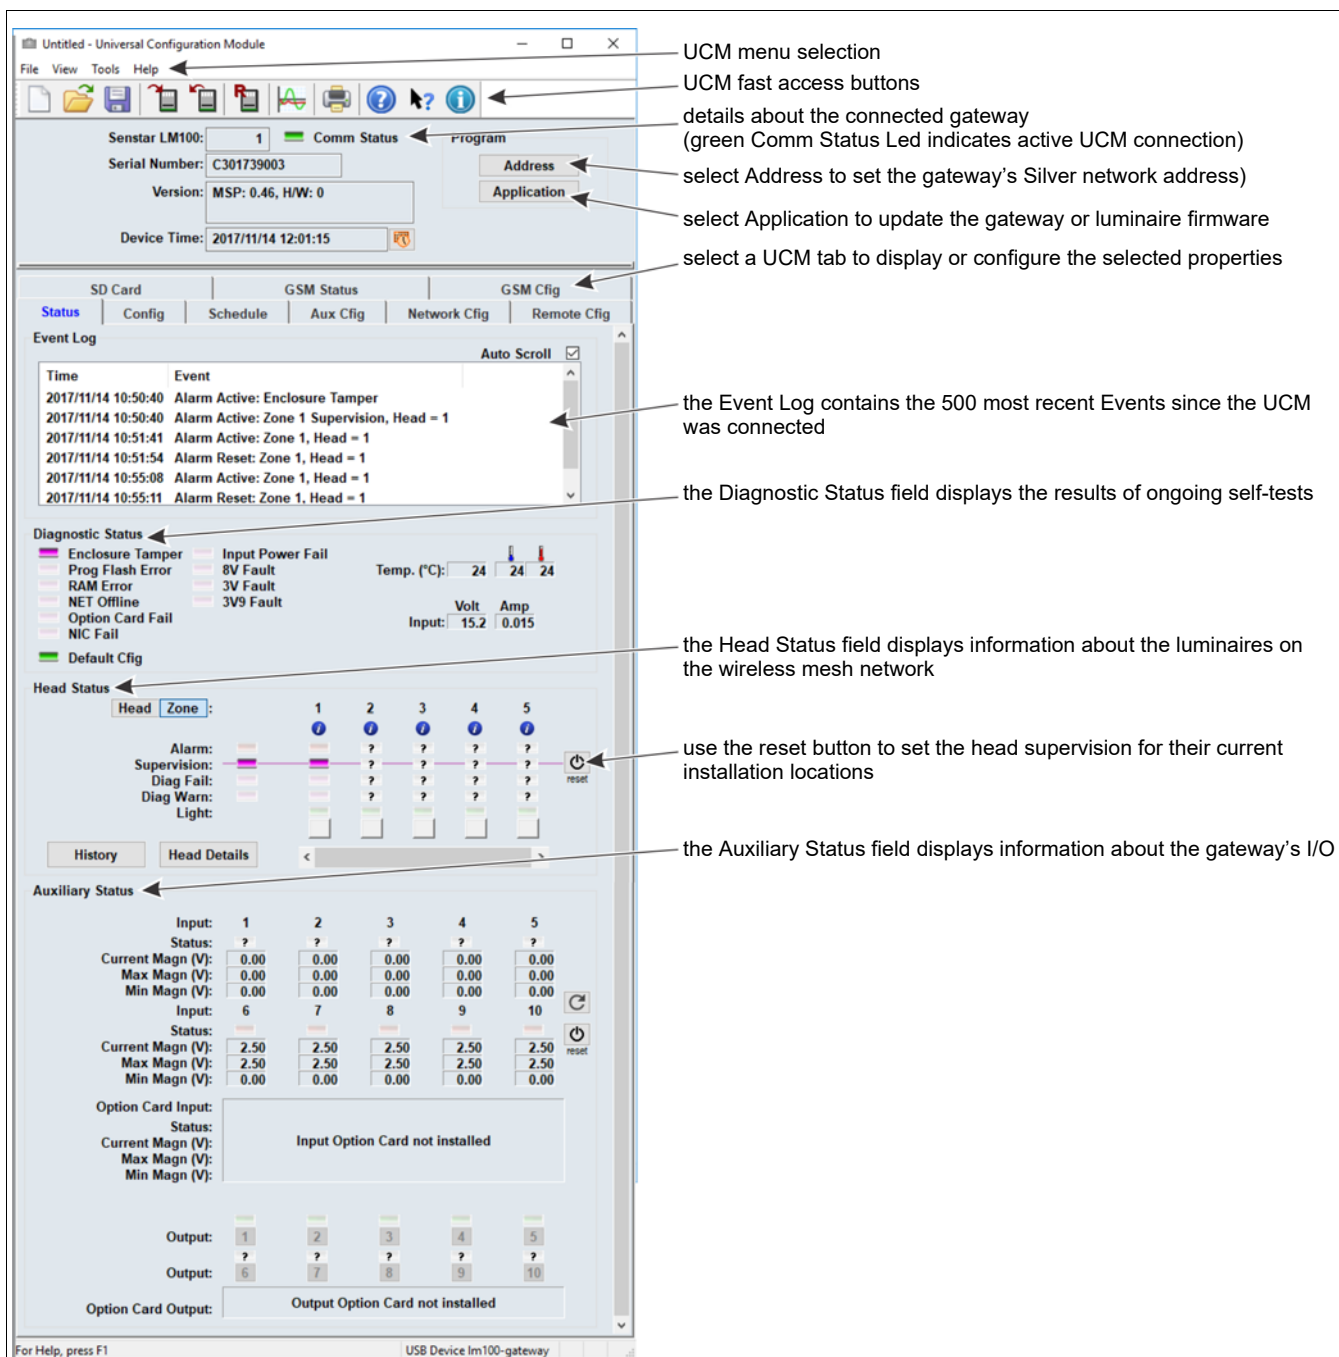

Figure 47: UCM Status window
3. Reset the Heads supervision (see Figure 47:).